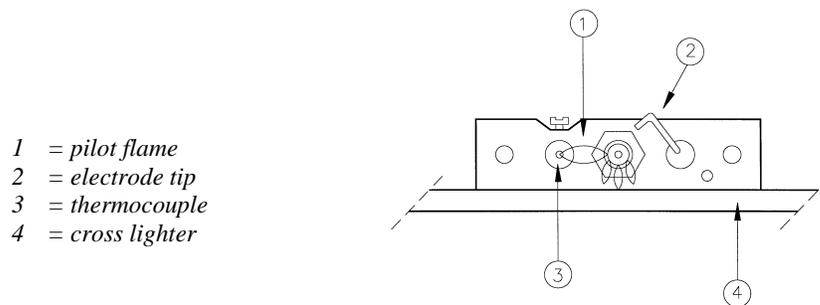

Fig. 5 Pilot Burner Arrangement
- b) Ensure that the nozzles in the pilot burner head are correctly oriented relative to the thermocouple and cross-lighter (see Fig.5).